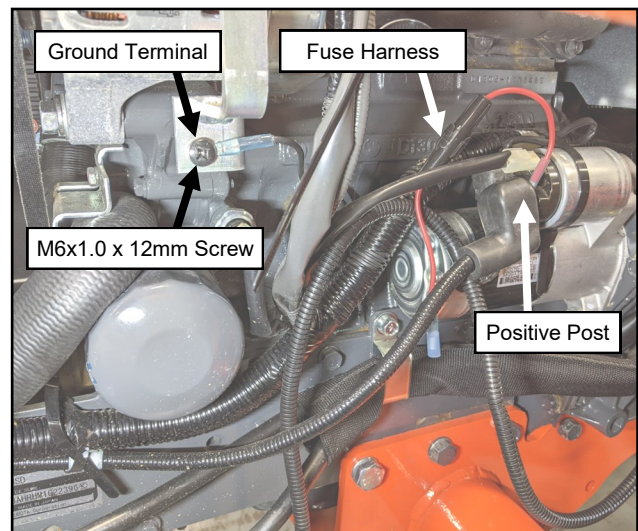

Fig. 16.3 (Connect Ground Terminal and Fuse Harness)
- 16.3** Route the wiring harness around the left side of the engine and around the starter behind the starter wire. See Figure 16.3. Connect the ground terminal to the vehicle bracket shown.
- 16.4** Connect the supplied fuse harness ring terminal to the positive post on the starter. See Figure 16.3.